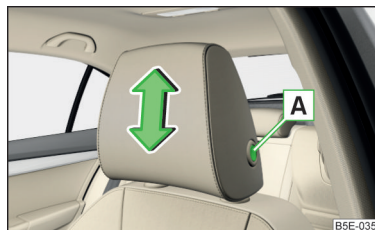

Fig. 71
- › Press and hold the safety button **A** » Fig. 71.